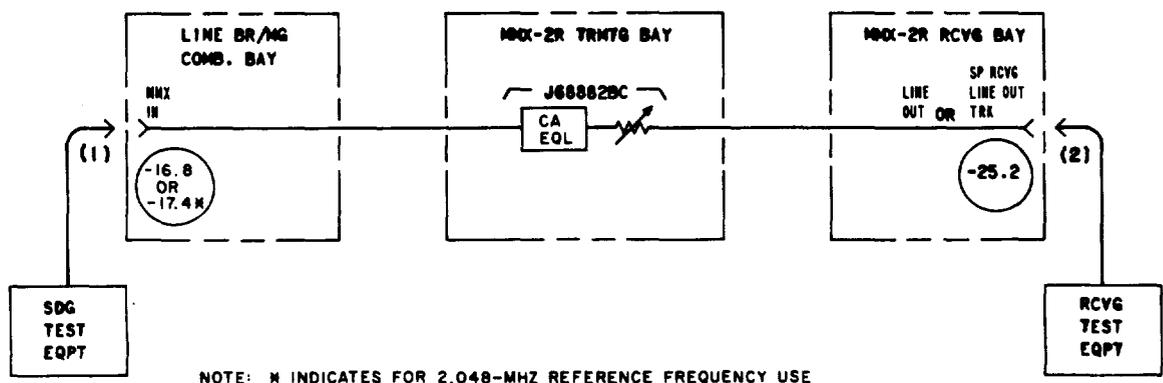

Fig. 6—Receiving Regular or Spare Radio Trunk for Mastergroup Branching
2	Prepare the STE to produce a 600-kHz signal at -16.8 dBm. Note: Use a test signal at -17.4 dBm (Fig. 6) if the 2.048-MHz reference frequency is received on the trunk under test.
4	Connect the sending test equipment to the MMX IN jack in the line branching/mastergroup combining bay [patch (1), Fig. 6].
5	Connect the RTE to the LINE OUT or SP RCVG LINE OUT TRK jack in the MMX-2R receiving bay [patch (2), Fig. 6].